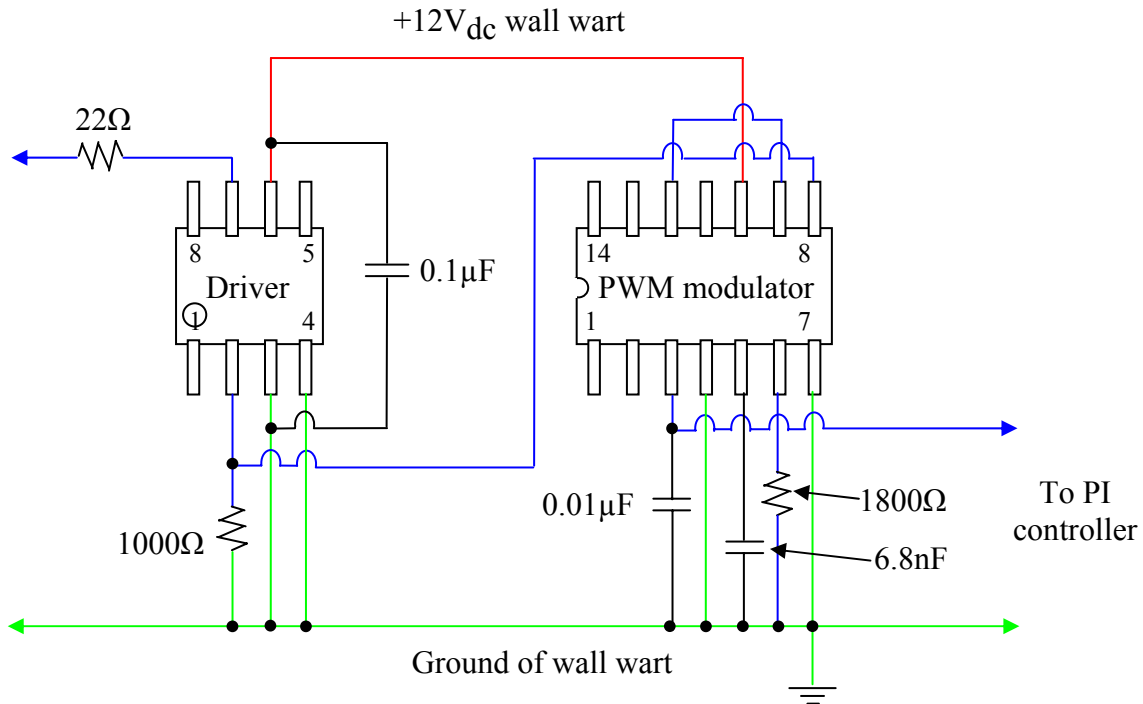

Figure 5. Modified MOSFET Firing Circuit
1. Modify the MOSFET firing circuit according to Figure 5. With the 1800 Ω fixed resistor, the frequency of operation should be approximately 90kHz.